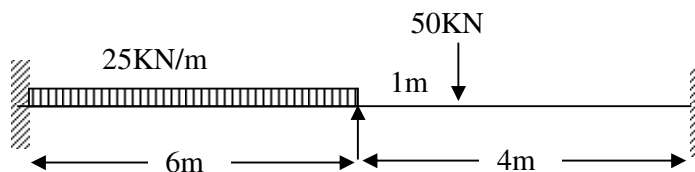

Figure 3
4. Evaluate the bending moment and shear force diagrams of beam in Figure 3 by slope deflection method.